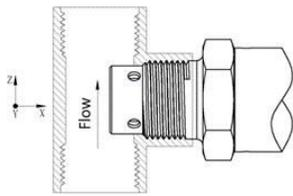

Figure 2. Installation Method
- Water flowing from the bottom up in the pipe keeps the conductivity cell full of water and prevents air bubbles and air buildup while ensuring accurate measurement. As shown in Figure 2.